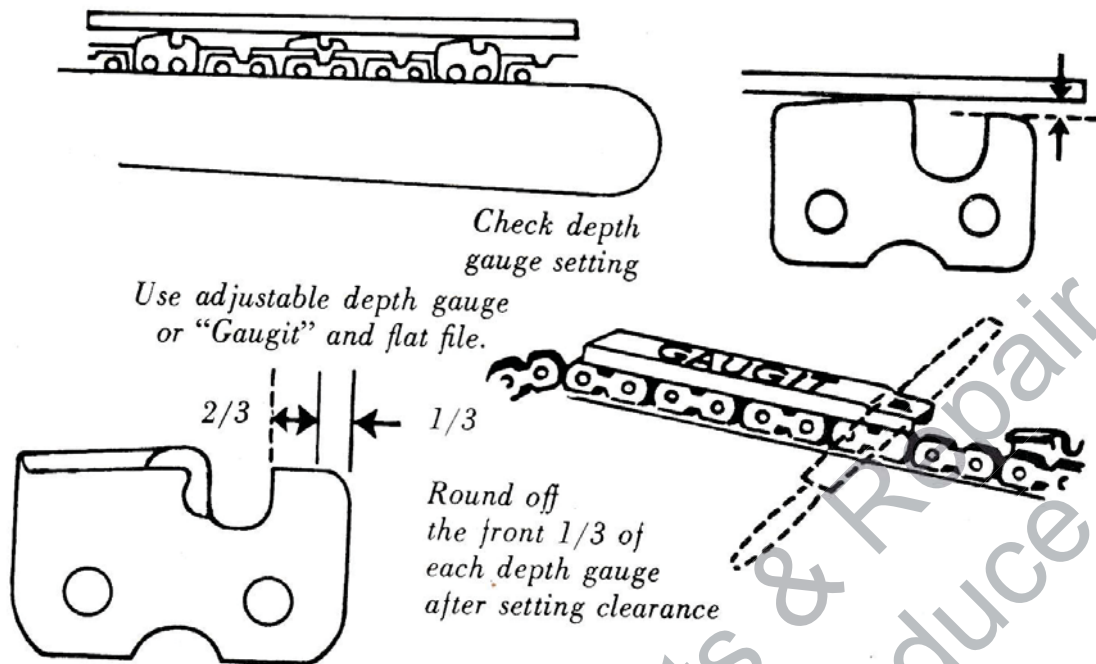

Figure 8—Filing Depth Gauges
(2) **FILING DEPTH GAUGES** (See Figure 8.)
(c) After filing gauges (See figure 8) be sure to round off the front corners uniformly and smoothly again, so they will glide over the wood instead of thumping into it.